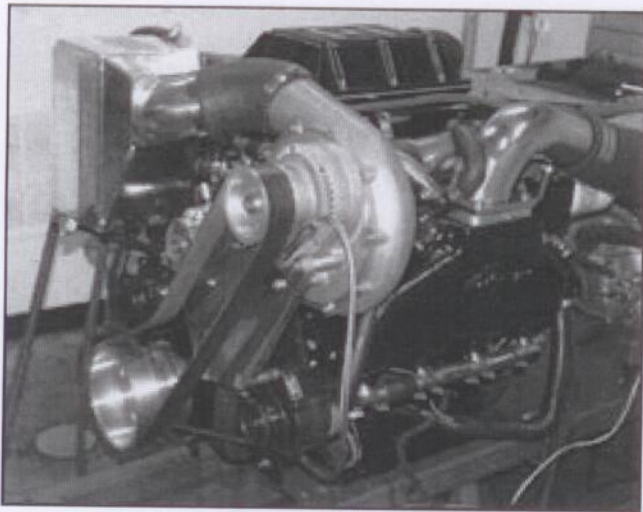

FIGURE F1
2. Connect a 4" x 90° elbow to the intercooler outlet. Connect the steel 4" in, 3" out tube provided to the open end of the installed 4" elbow, orienting as shown in figure F1. Install the supplied 3" double 90° attaching one end to the carb box inlet, and the other to the installed steel tube.